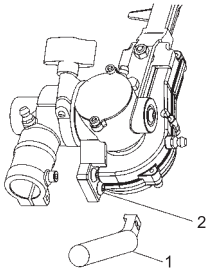

Fig. 3-2
2. Make sure the locking bolt (1) fits in the location hole (2) of tube and that the tube will not come off.
3. Tighten the clamp bolt (3) securely.
Installation of support handle (1) (Fig. 3-2)
1. Remove 2pcs of hex. hole screw (2) from gear case.
2. Install support handle (1) onto gear case by removed hex. hole screws (2). Then tighten hex. hole screws securely.